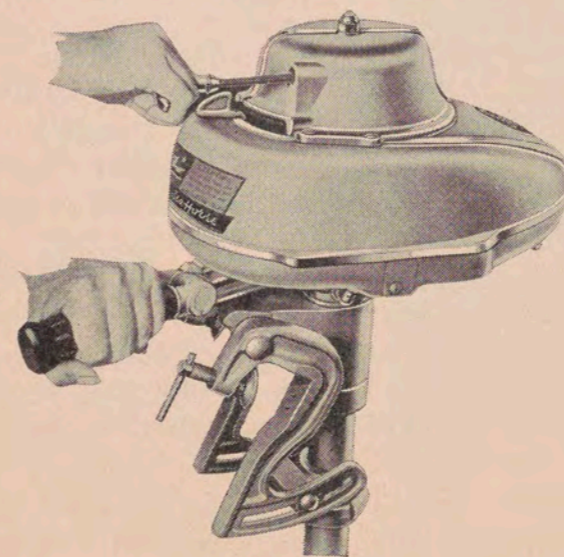

Fig. 8.
NOTE—The DeLuxe Single (DS) and DeLuxe Twin (DT) are equipped with the "Ready Pull". Fig. 8.
To start—wrap cord around starting pulley (knot of cord in notch of starting pulley). Pull rapidly on starting cord. Note—Models DS and DT are equipped with the "Ready Pull" starter—simply pull on cord grip. Fig. 8.